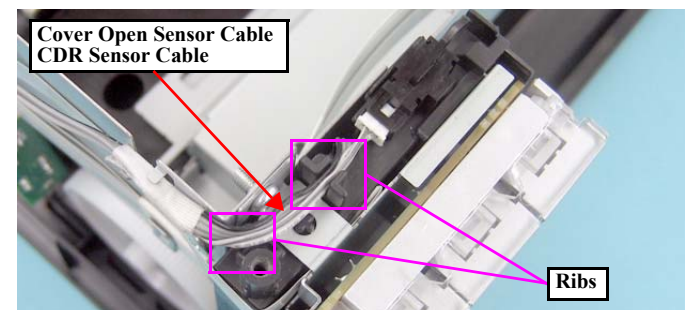

Figure 4-26. Installing the Panel Assy (1)
- As shown in Fig.4-26, route the CDR Sensor Cable and Cover Open Sensor Cable through the gap between the two ribs of the Open Sensor Holder.